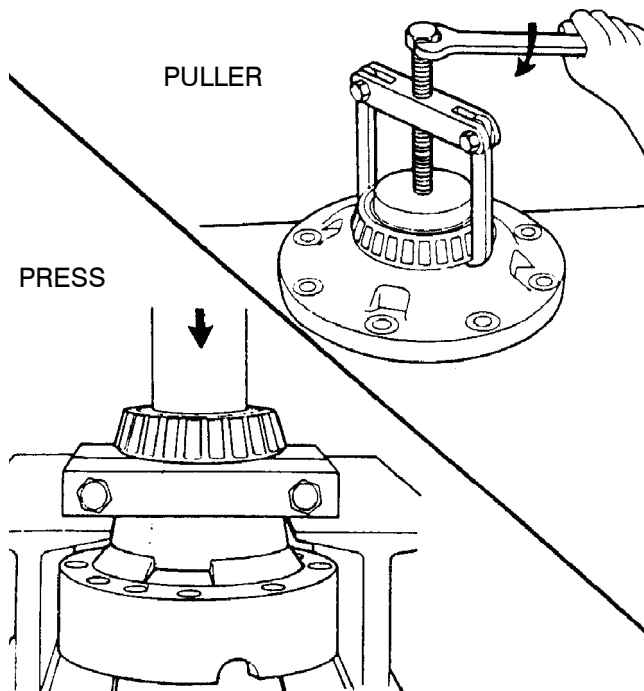

Figure 37. Bearing Removal.
- (5) If the bearing cones on the main differential case need to be replaced, use a bearing puller to remove the cones. Figure 37.